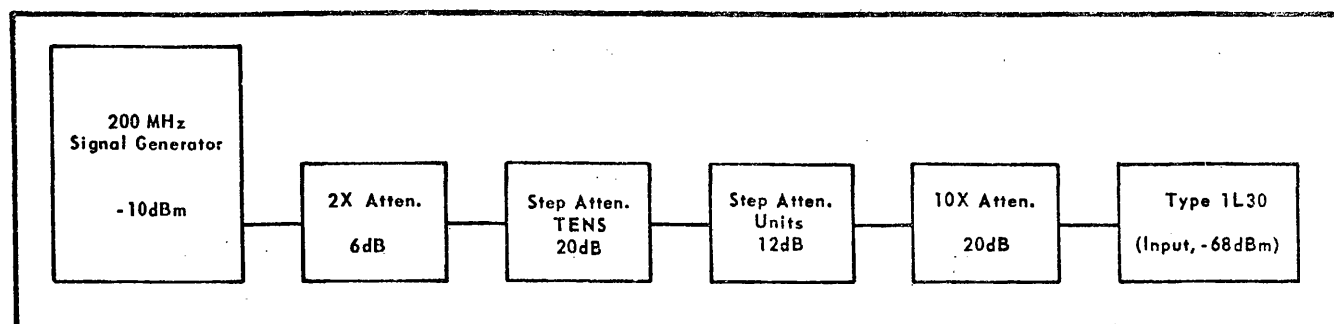

Fig. 5-5. Equipment setup to check attenuator accuracy.
b. Apply a 200 MHz signal from the signal generator that is 10 dB below 1 mV, through a 2 \times Attenuator (6 dB), a Tens and Units Step Attenuator and a 10 \times Attenuator (20 dB) to the Type 1L30 RF INPUT connector. (Fig. 5-5.)